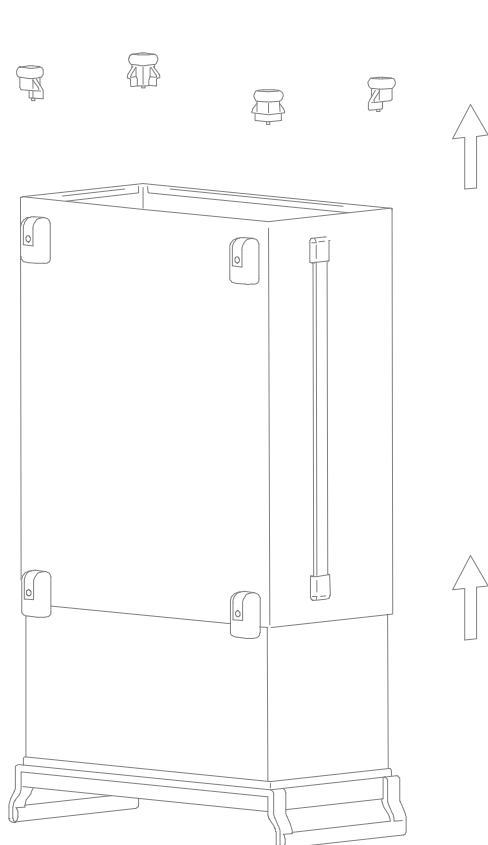

Figure 3 Removing the casing
6. Push casing upwards and remove it (see Figure 3).